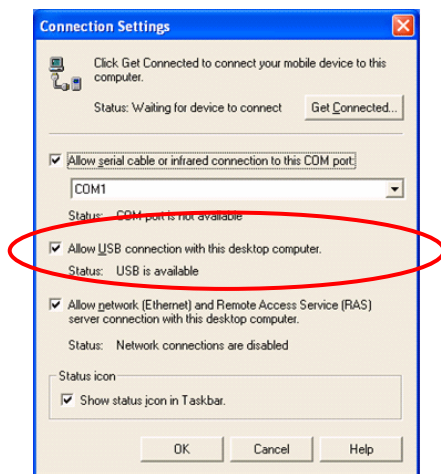

Figure 5.19
3. On the PC, make sure **Allow USB connection with this desktop computer.** has been set enabled (see Figure 5.19).